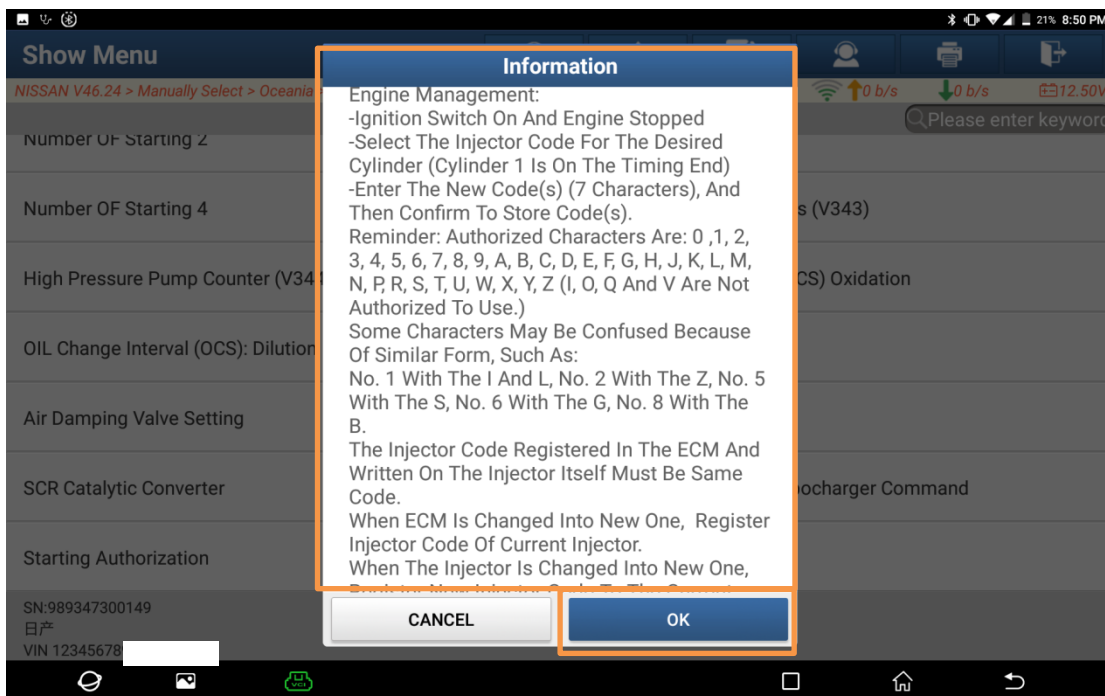
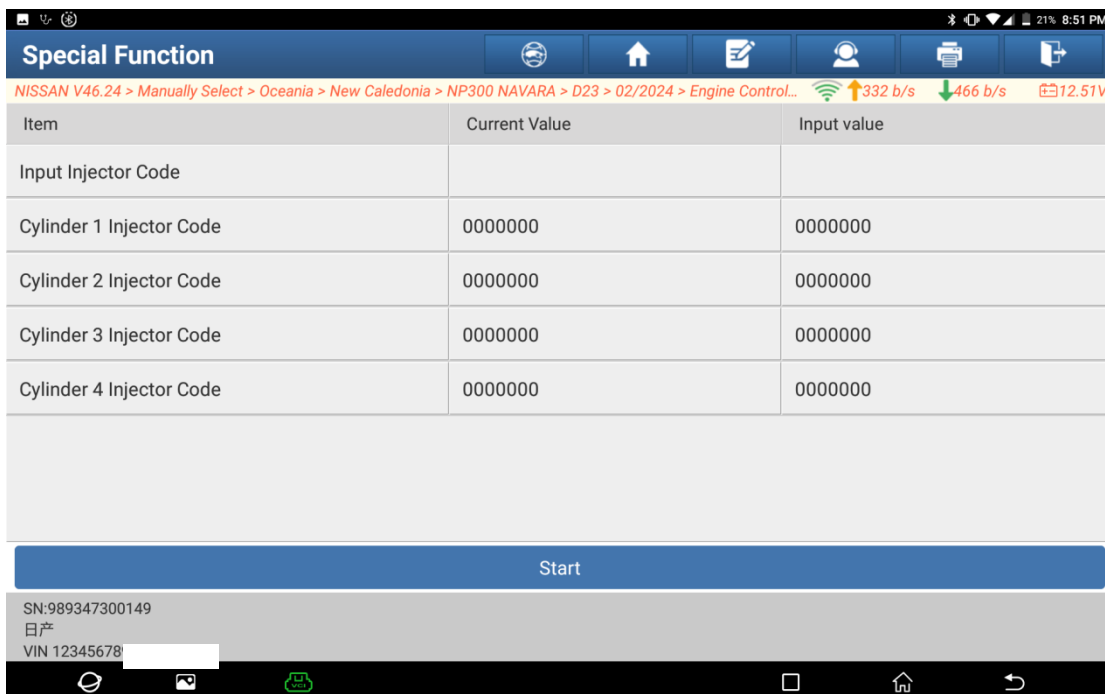

Figure 13
Figure 14
- Read the pop-up prompts carefully (Figure 13). Ensure that the ignition switch is turned on and the engine is stopped, and then click [OK] to enter the interface shown in Figure 14.